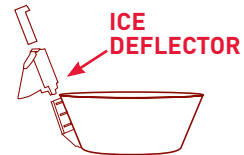

Figure 5
4. Remove the ice deflector blade assembly by pushing and sliding the u-lock upwards. Pull the ice deflector blade from the ice hopper and store in a safe place. *Figure 5*